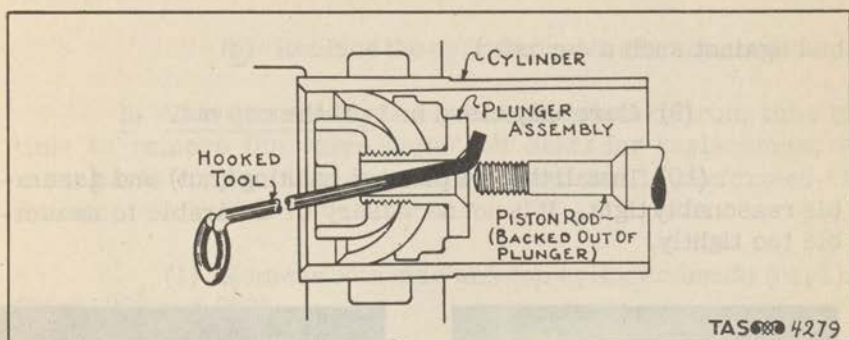

Figure 255. Removal of Plunger Assembly.
- (3) With socket wrench, remove the piston rod nut which holds the plunger in place.
- (4) Rotate the pump so that the piston rod will back out of the plunger casting.
- (5) Insert the hooked tool, as shown in figure 255.
- (6) Further rotate the pump so that the piston will push the plunger out.
(3) Remove the plunger assembly. (Fig. 255)
(4) Rotate the pump so that the piston rod shoulder